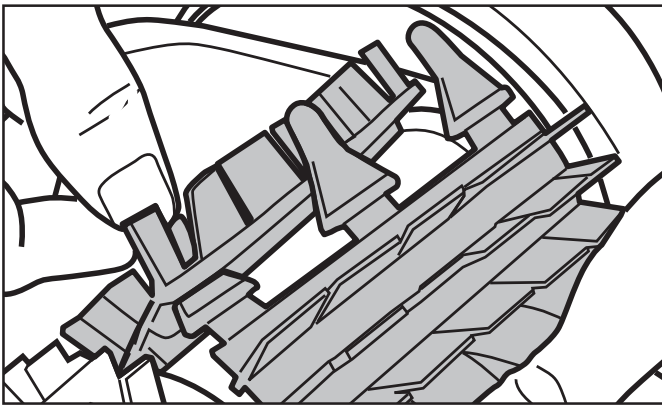

Figure 27. Pull Tabs Through Each Slot
4. Thread each tab into the slot provided and gently feed it through until the heel comes out at the other side of the slot (see Figure 27).